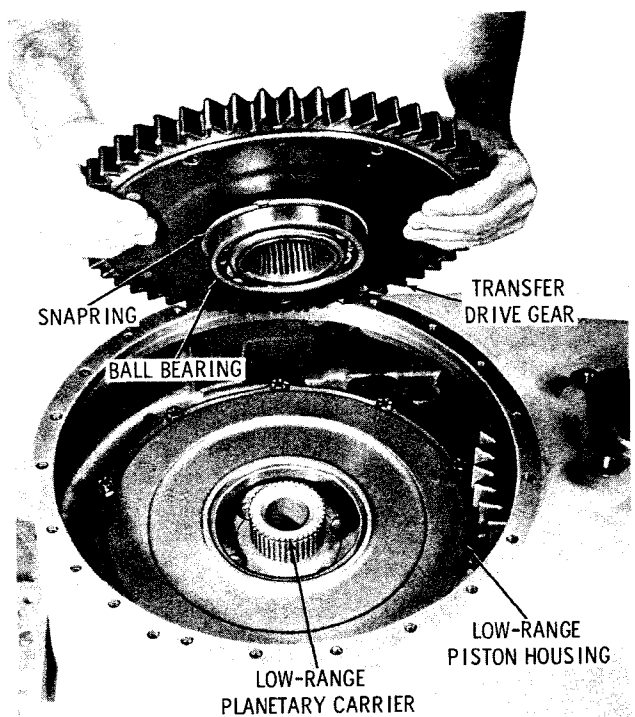

Fig. 7-20. Installing transfer drive gear assembly
(1) Install the transfer drive gear (as assembled in para 6-18), bearing first, onto the splined hub of the low-range planetary carrier (fig. 7-20).